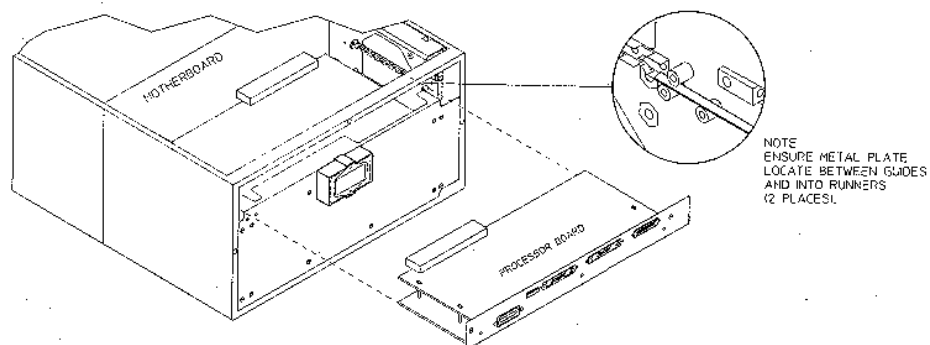

Figure 10
9. Re-install the Processor assembly as shown in FIG 10.